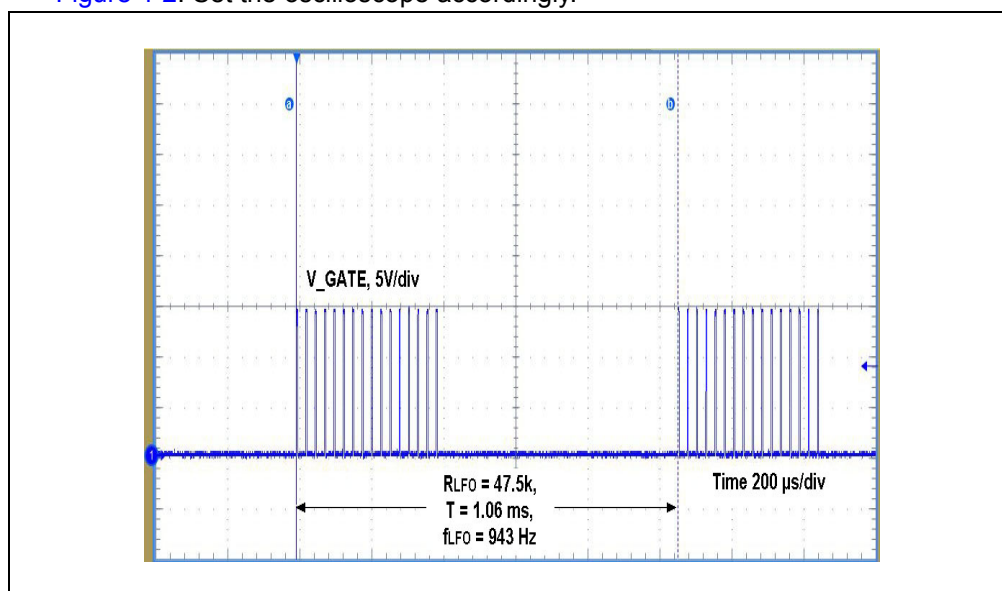

FIGURE 4-2: MCP1012 V_GATE Voltage.
8. Check on the oscilloscope screen the V_GATE voltage, as it is presented in Figure 4-2. Set the oscilloscope accordingly.